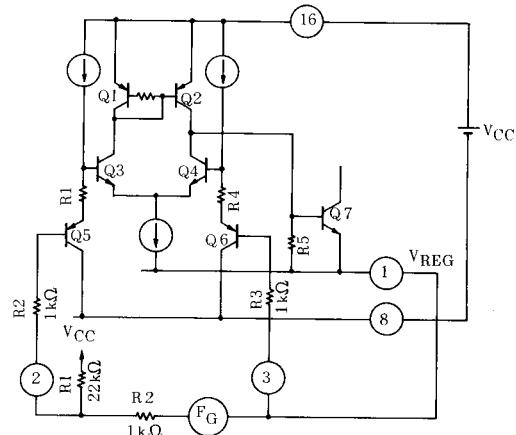

Figure 1. Waveform shaping circuit
3. In waveform shaping circuit, there is no offset, and then, when the external bias resistors are the same as each other, the circuit will operate at zero cross operation. The circuit will erroneously operate responding to the noise, and show the performance degradation. Therefore, it is necessary to apply the pertinent offset by using R₁ and R₂ as shown in figure 1, in considering input voltage from F_G.